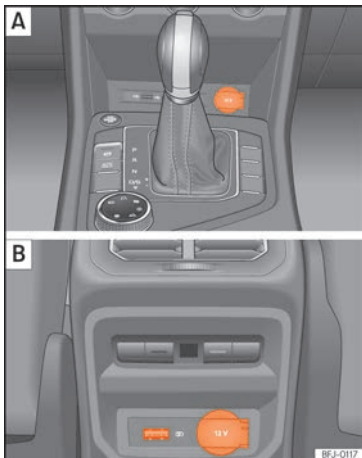
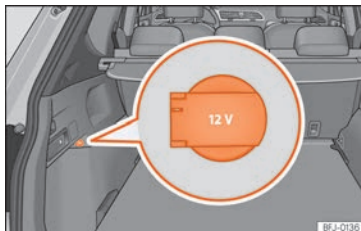

Fig. 183 **A**) Centre console: front 12 volt power socket. **B**) Centre console, rear section: USB and 12-volt power socket.
Fig. 184 Detailed view of the side trim in the boot: 12-volt power socket.
- Lift the power socket cover »» **Fig. 183**, »» **Fig. 184**.
These USB ports are located at the rear of the console, between the front seats »» **Fig. 183 B**). These connectors can work at a maximum power of up to 10.5 W per port.